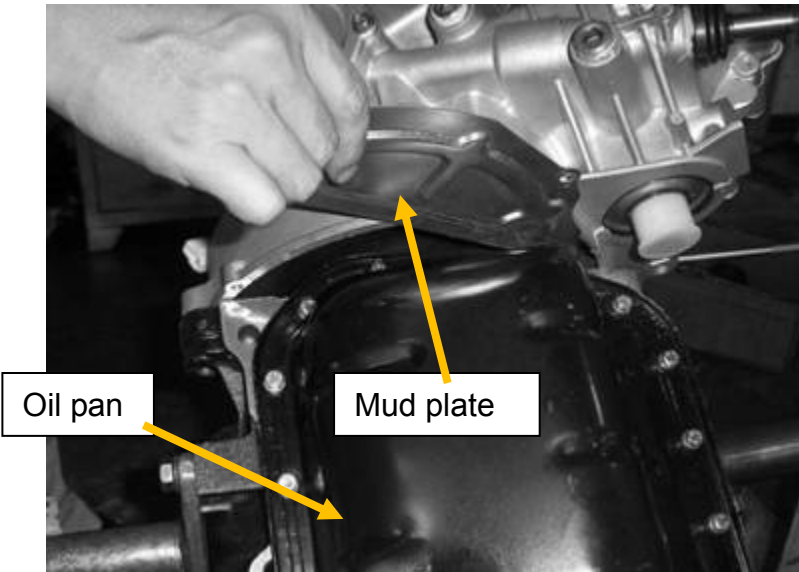

Figure 35
2. Remove the lower mud plate (See Figure 35).